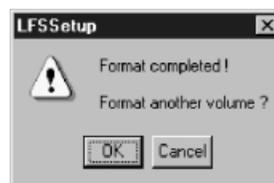

Fig. 12 “Format completed!” dialog box
10. If the formatting is completed error-free, the “Format completed!” dialog box shown in Fig. 12 appears. Click [OK].